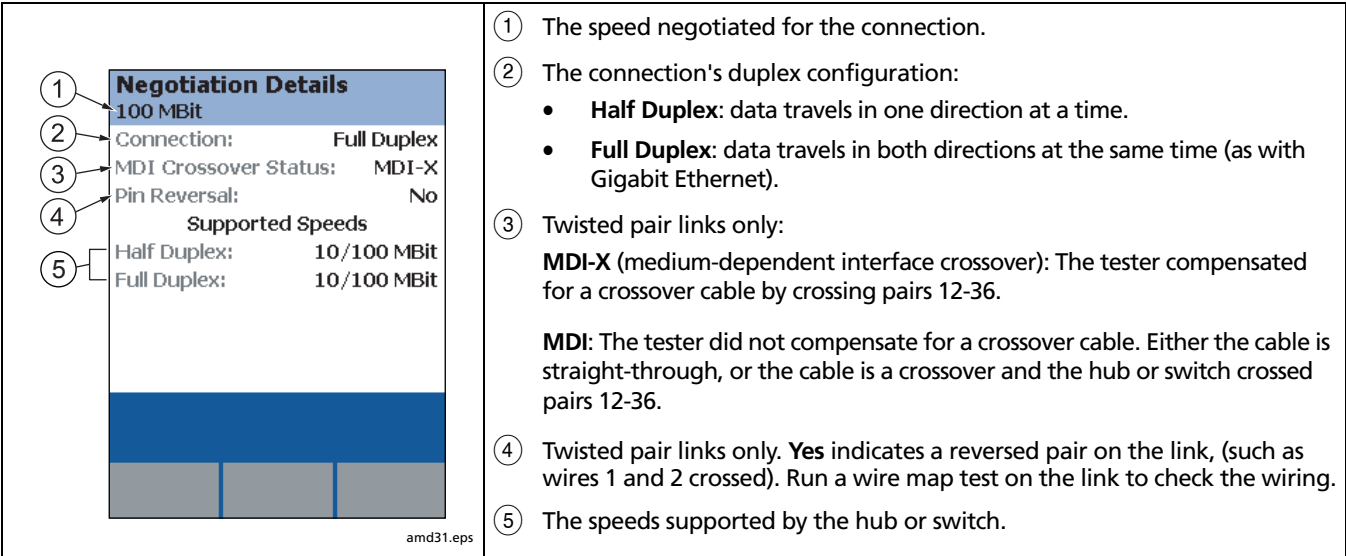

Figure 10-5. Negotiation Details (twisted pair results shown)
- ④ Select **Negotiation Details** to see details. See Figure 10-5.